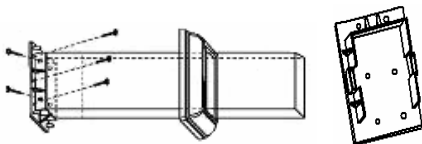

Figure 3: Rail Base Bracket and Trim Cover Plate
- Once all pickets are inserted, secure the rails to the rail base brackets with 4 - #8 x 1 inch self-drilling square bit screws, if necessary: pre-drill with an 1/8" drill bit) being careful not to over-tighten. Cover the base brackets with the trim covers. Secure the trim cover to the base bracket with a dab of glue on each tab of the trim cover (see figure 3).